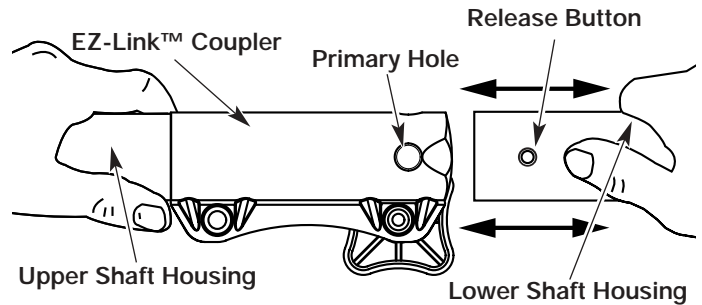

Fig. 10
3. While firmly holding the upper shaft housing, pull the cutting attachment or add-on straight out of the EZ-Link™ coupler (Fig. 10).
2. While firmly holding the add-on, push it straight into the EZ-Link™ coupler (Fig. 10).